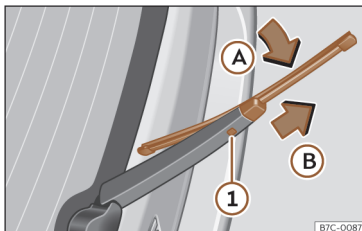

Fig. 39 Changing the rear wiper blade
- Turn the blade slightly >>> **Fig. 39** (arrow **A**).
- Hold down the release button ❶ while gently pulling the blade in the direction of arrow **B**.
- Insert a new blade of the **same length and type** in the rear wiper arm in the opposite direction to the arrow **B** and hook into place button ❶.